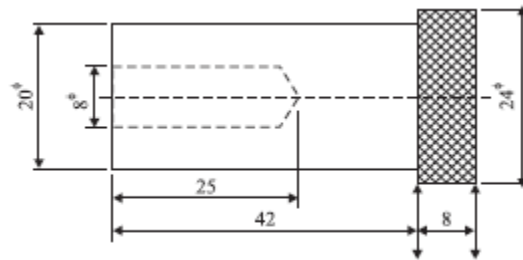

Fig. 5.24
- 3 A mild steel shaft, shown in Fig. 5.24 is to be turned from a 24 mm dia bar. (16) BT5